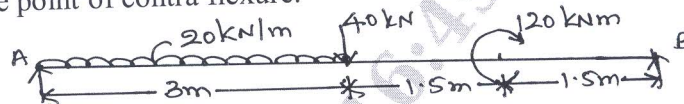

Fig.Q.5(b)
- b. Draw SFD and BMD for the beam shown in Fig.Q.5(b). Determine the maximum BM and its location. Locate point of contra flexure. (08 Marks)